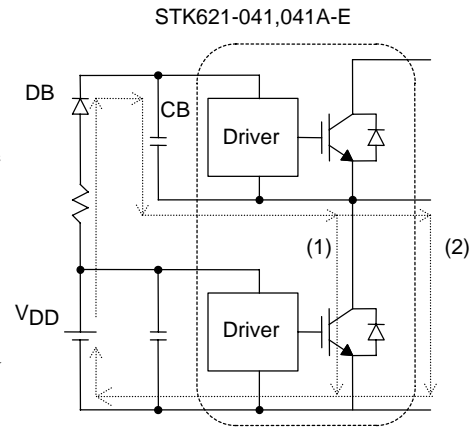

Figure 3 Bootstrap circuit and charge path
(4) VB1, VB2 and VB3 pins
These pins connect the positive power supplies for the upper-side power device pre-driver circuits. The three control power supplies each require an electrically insulated floating power supply. In addition to the method that uses three independent power supplies, this power supply can also be configured using the bootstrap circuit shown in Fig. 3. As shown in this figure, CB has a path (1) that is charged when the lower-side device is ON, and a path (2) for motor regeneration mode. The CB section voltage fluctuates according to the switching frequency and duty ratio of the external control circuit. Therefore, the CB capacitance value must be set in consideration of the voltage fluctuation. DB should use a high-speed type FRD with a fast t_{rr} and $V_R = 600V$. RB is used to limit the rush charging current during CB initial charging. Note that a large rush charging current may cause the internal circuits to malfunction. CB can also be charged before startup by connecting high-value resistors to the output pins and minus pins. (Care must be taken for the withstand voltage and the power.)